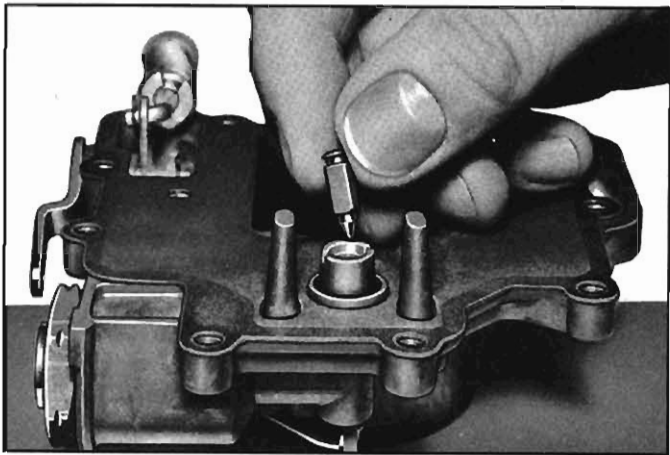

Fig. 16—Removing Float Needle
7. Lift out float needle (fig. 16). Check seat for dirt or corrosion.